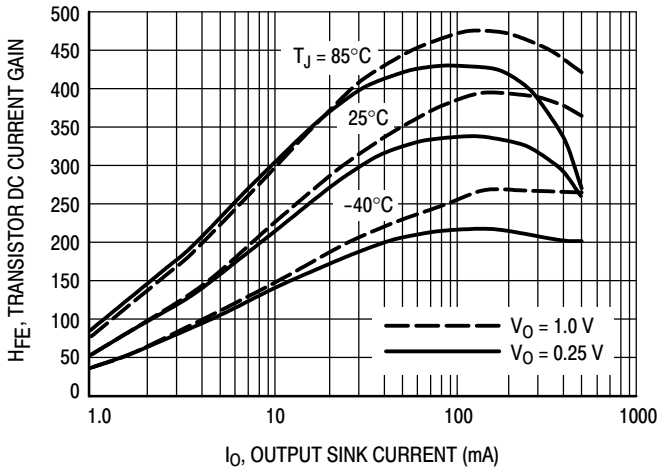

Figure 2. Transistor DC Current Gain
4. While keeping any  $V_{O(sat)}$  requirements in mind, determine the max input current needed to achieve that output current from Figures 2 and 6.